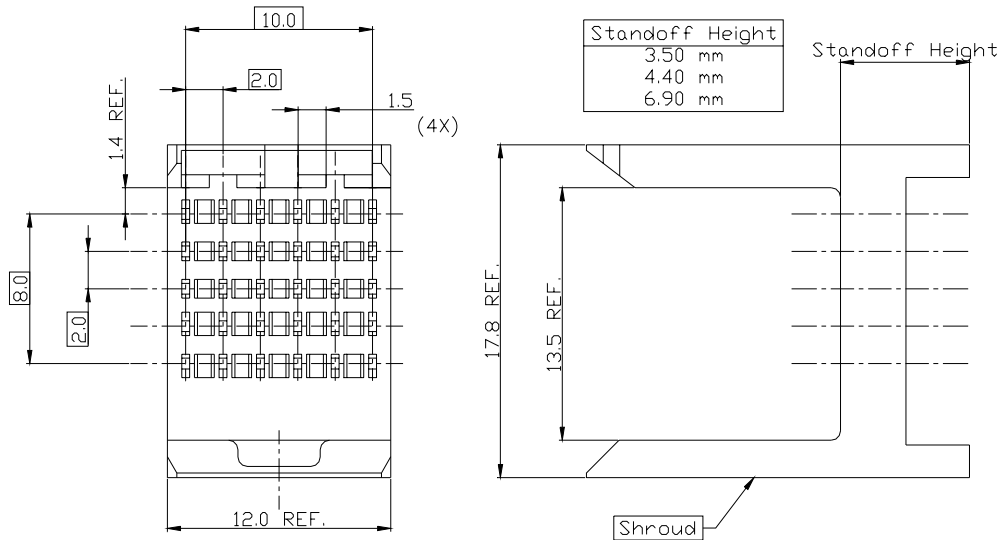

Figure 5 - Vertical 5-row shroud. (All dimensions in mm)
- Three different standoff heights are available on the shrouds as shown in Figure 5.